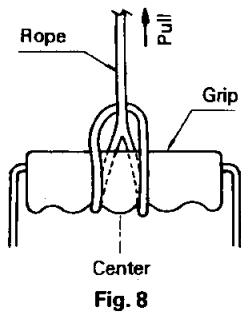

Fig. 8
(6) Install suspension rope or chain to pump grip or suspender as shown in Figs. 8 and 9.